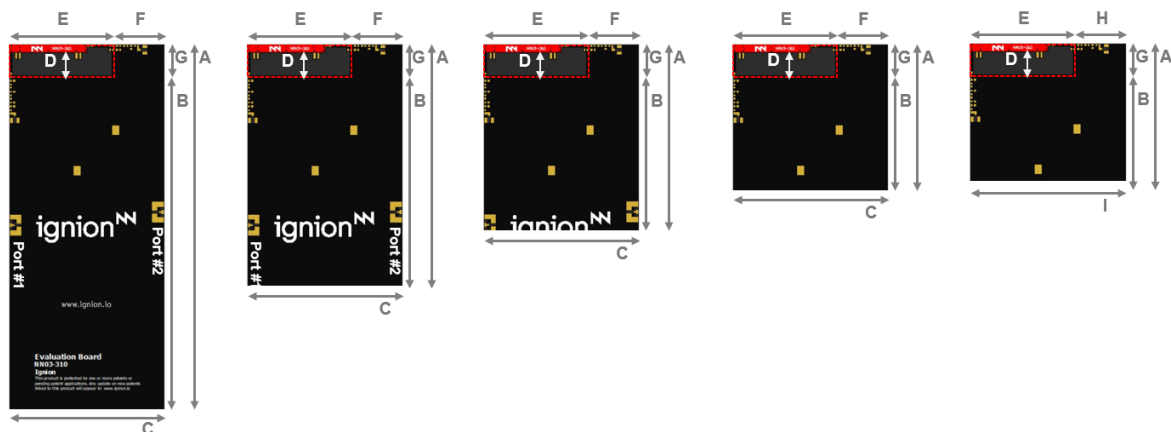

Figure 1 – Evaluation boards with different PCB dimensions that provide operation from 698 MHz to 960 MHz and from 1710 MHz to 2690 MHz.
Each PCB board in the following set-up integrates a UFL cable to connect the TRIO mXTEND[™] chip antenna component with a SMA connector so that VSWR and antenna efficiency can be tested. The following results cover a wide scope of PCB sizes (length (A) and width (C)) (Figure 1), ranging from 142mm x 60mm down to 50mm x 50mm.
Table 1 – Total efficiency (%) comparison considering the different PCB sizes (Figure 1).